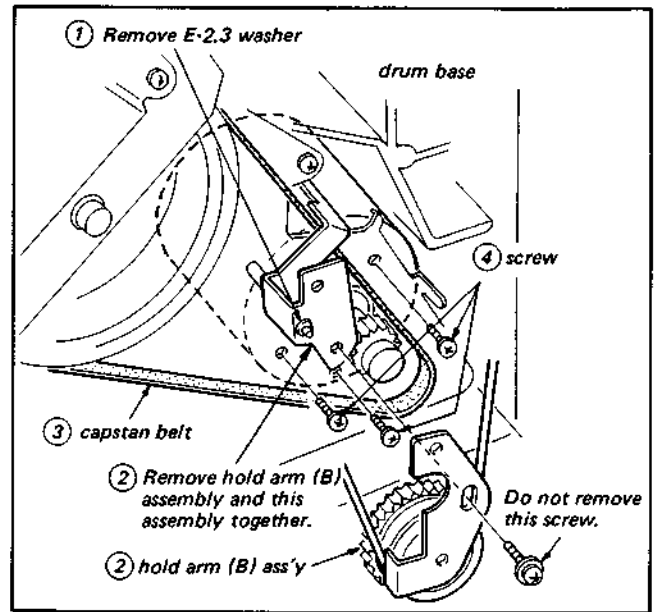

Fig. 3-7. Replacement of DC motor (1)
2. Remove the DC motor from the drum base, following Steps ① to ④ shown in Fig. 3-7.